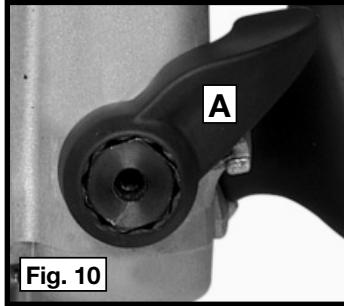

Fig. 10
2. Release the plunge mechanism by pulling the locking lever (A) Fig. 10 down. Lower the plunge mechanism until the router bit touches the work surface. Release the lever and push it to the right to lock the mechanism in this position.